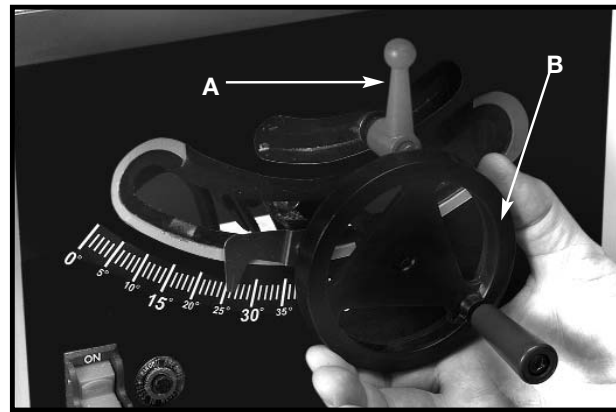
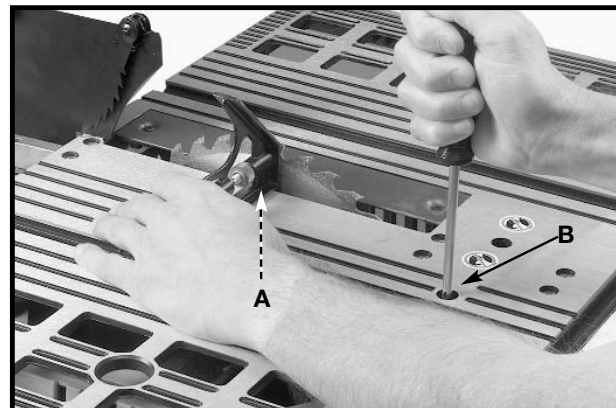
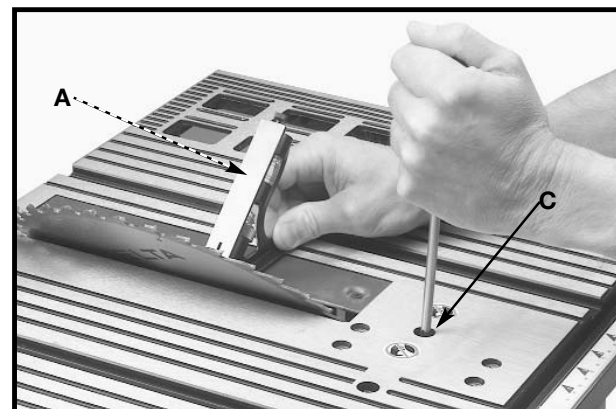

Fig. 32
Fig. 33
Fig. 34
To tilt the saw blade, loosen the lock handle (A) Fig. 32 and move the handwheel (B) until the blade is at the desired angle. Tighten the lock handle (A).
2. Loosen the blade tilting lock handle (A) Fig. 32, move the blade tilting mechanism (B) as far as possible to the left, and tighten the blade tilting lock handle (A).
3. Place a square (A) Fig. 33 on the table with one end of the square against the blade, and check to see if the blade is 90 degrees to the table. If not, loosen the screw (B) Fig. 33 a few turns and move the blade tilting mechanism until the blade is 90 degrees to the table. Tighten the blade tilting lock handle (A) Fig. 32, and tighten the screw (B) Fig. 33 until it stops.
2. Loosen the blade tilting lock handle (A) Fig. 32, move the blade tilting mechanism (B) as far as possible to the right, and tighten the blade tilting lock handle (A).
3. Place a square (A) Fig. 34 on the table with one end of the square against the blade, and see if the blade is 45 degrees to the table. If not, loosen the screw (C) Fig. 34 a few turns and move the blade tilting mechanism (B) Fig. 32, until the blade is 45 degrees to the table. Tighten the blade tilting lock handle (A) Fig. 32, and tighten the screw (C) Fig. 34 until it stops.